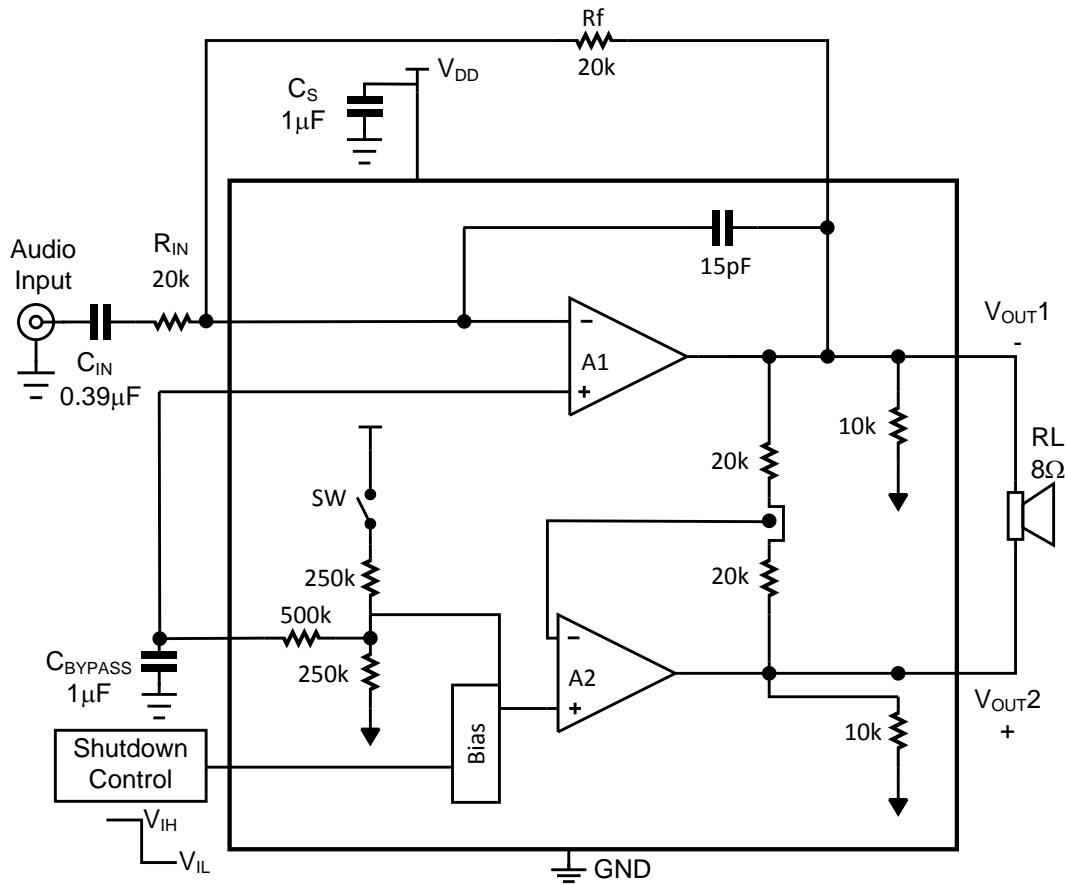

Figure 7. Typical Audio Amplifier Application Circuit
The following specifications apply for the circuit shown in Figure 7 unless otherwise specified. Limits apply for $T_A = 25^\circ C$.
- (1) All voltages are measured with respect to the ground pin, unless otherwise specified.
- (2) *Absolute Maximum Ratings* indicate limits beyond which damage to the device may occur. *Operating Ratings* indicate conditions for which the device is functional, but do not ensure specific performance limits. *Electrical Characteristics* state DC and AC electrical specifications under particular test conditions which ensure specific performance limits. This assumes that the device is within the Operating Ratings. Specifications are not ensured for parameters where no limit is given, however, the typical value is a good indication of device performance.
- (3) For DSBGA only, shutdown current is measured in a Normal Room Environment. Exposure to direct sunlight will increase I_{SD} by a maximum of 2 μA .
- (4) Typicals are measured at 25 $^\circ C$ and represent the parametric norm.
- (5) Limits are specified to TI's AOQL (Average Outgoing Quality Level).
- (6) Datasheet min/max specification limits are specified by design, test, or statistical analysis.
- (7) ROUT is measured from each of the output pins to ground. This value represents the parallel combination of the 10k ohm output resistors and the two 20k ohm resistors.
- (8) PSRR is a function of system gain. Specifications apply to the circuit in Figure 7 where $A_V = 2$. Higher system gains will reduce PSRR value by the amount of gain increase. A system gain of 10 represents a gain increase of 14dB. PSRR will be reduced by 14dB and applies to all operating voltages.
The following specifications apply for the circuit shown in Figure 7 unless otherwise specified. Limits apply for $T_A = 25^\circ\text{C}$.
(7) R_{OUT} is measured from each of the output pins to ground. This value represents the parallel combination of the 10k ohm output resistors and the two 20k ohm resistors.
(8) PSRR is a function of system gain. Specifications apply to the circuit in Figure 7 where $A_V = 2$. Higher system gains will reduce PSRR value by the amount of gain increase. A system gain of 10 represents a gain increase of 14dB. PSRR will be reduced by 14dB and applies to all operating voltages.
The following specifications apply for for the circuit shown in Figure 7 unless otherwise specified. Limits apply for $T_A = 25^\circ\text{C}$.